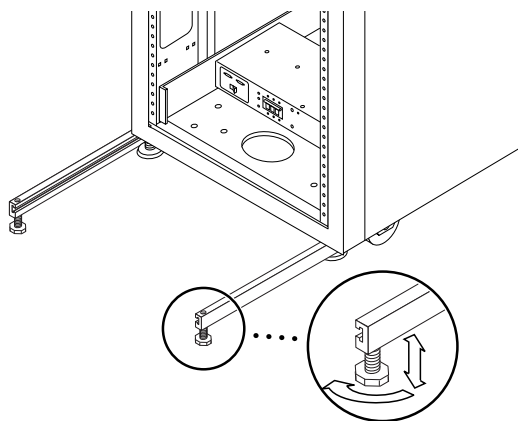

FIGURE 2-4 Adjusting the Leveling Pads on the Stabilizer Leg
6. Use the leveling wrench and adjust the feet on both stabilizer legs so that they touch the floor (FIGURE 2-4).